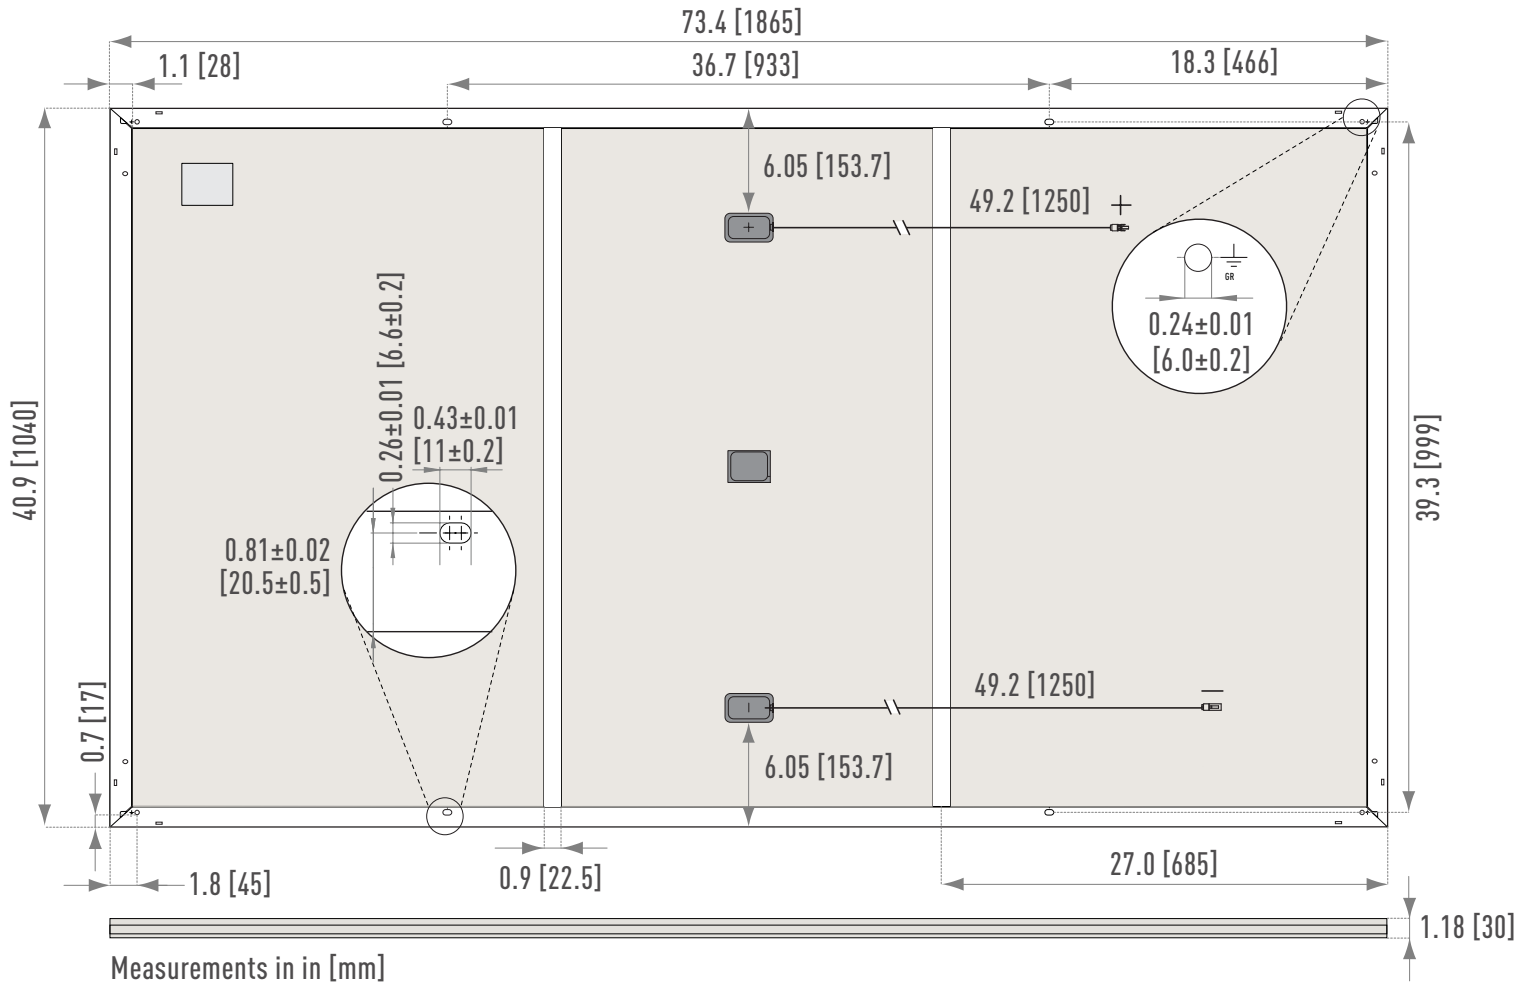

Figure 1. Module Dimension for EVPVxxxHK2 Series
- Module specifications are shown in Table 1, 2 and Figure 1, 2, 3. (Electrical specifications, mechanical specifications, module dimensions)
- Each terminal is dedicated to one polarity (with the polarity symbols engraved onto the body of the junction box) (see Figure 1).